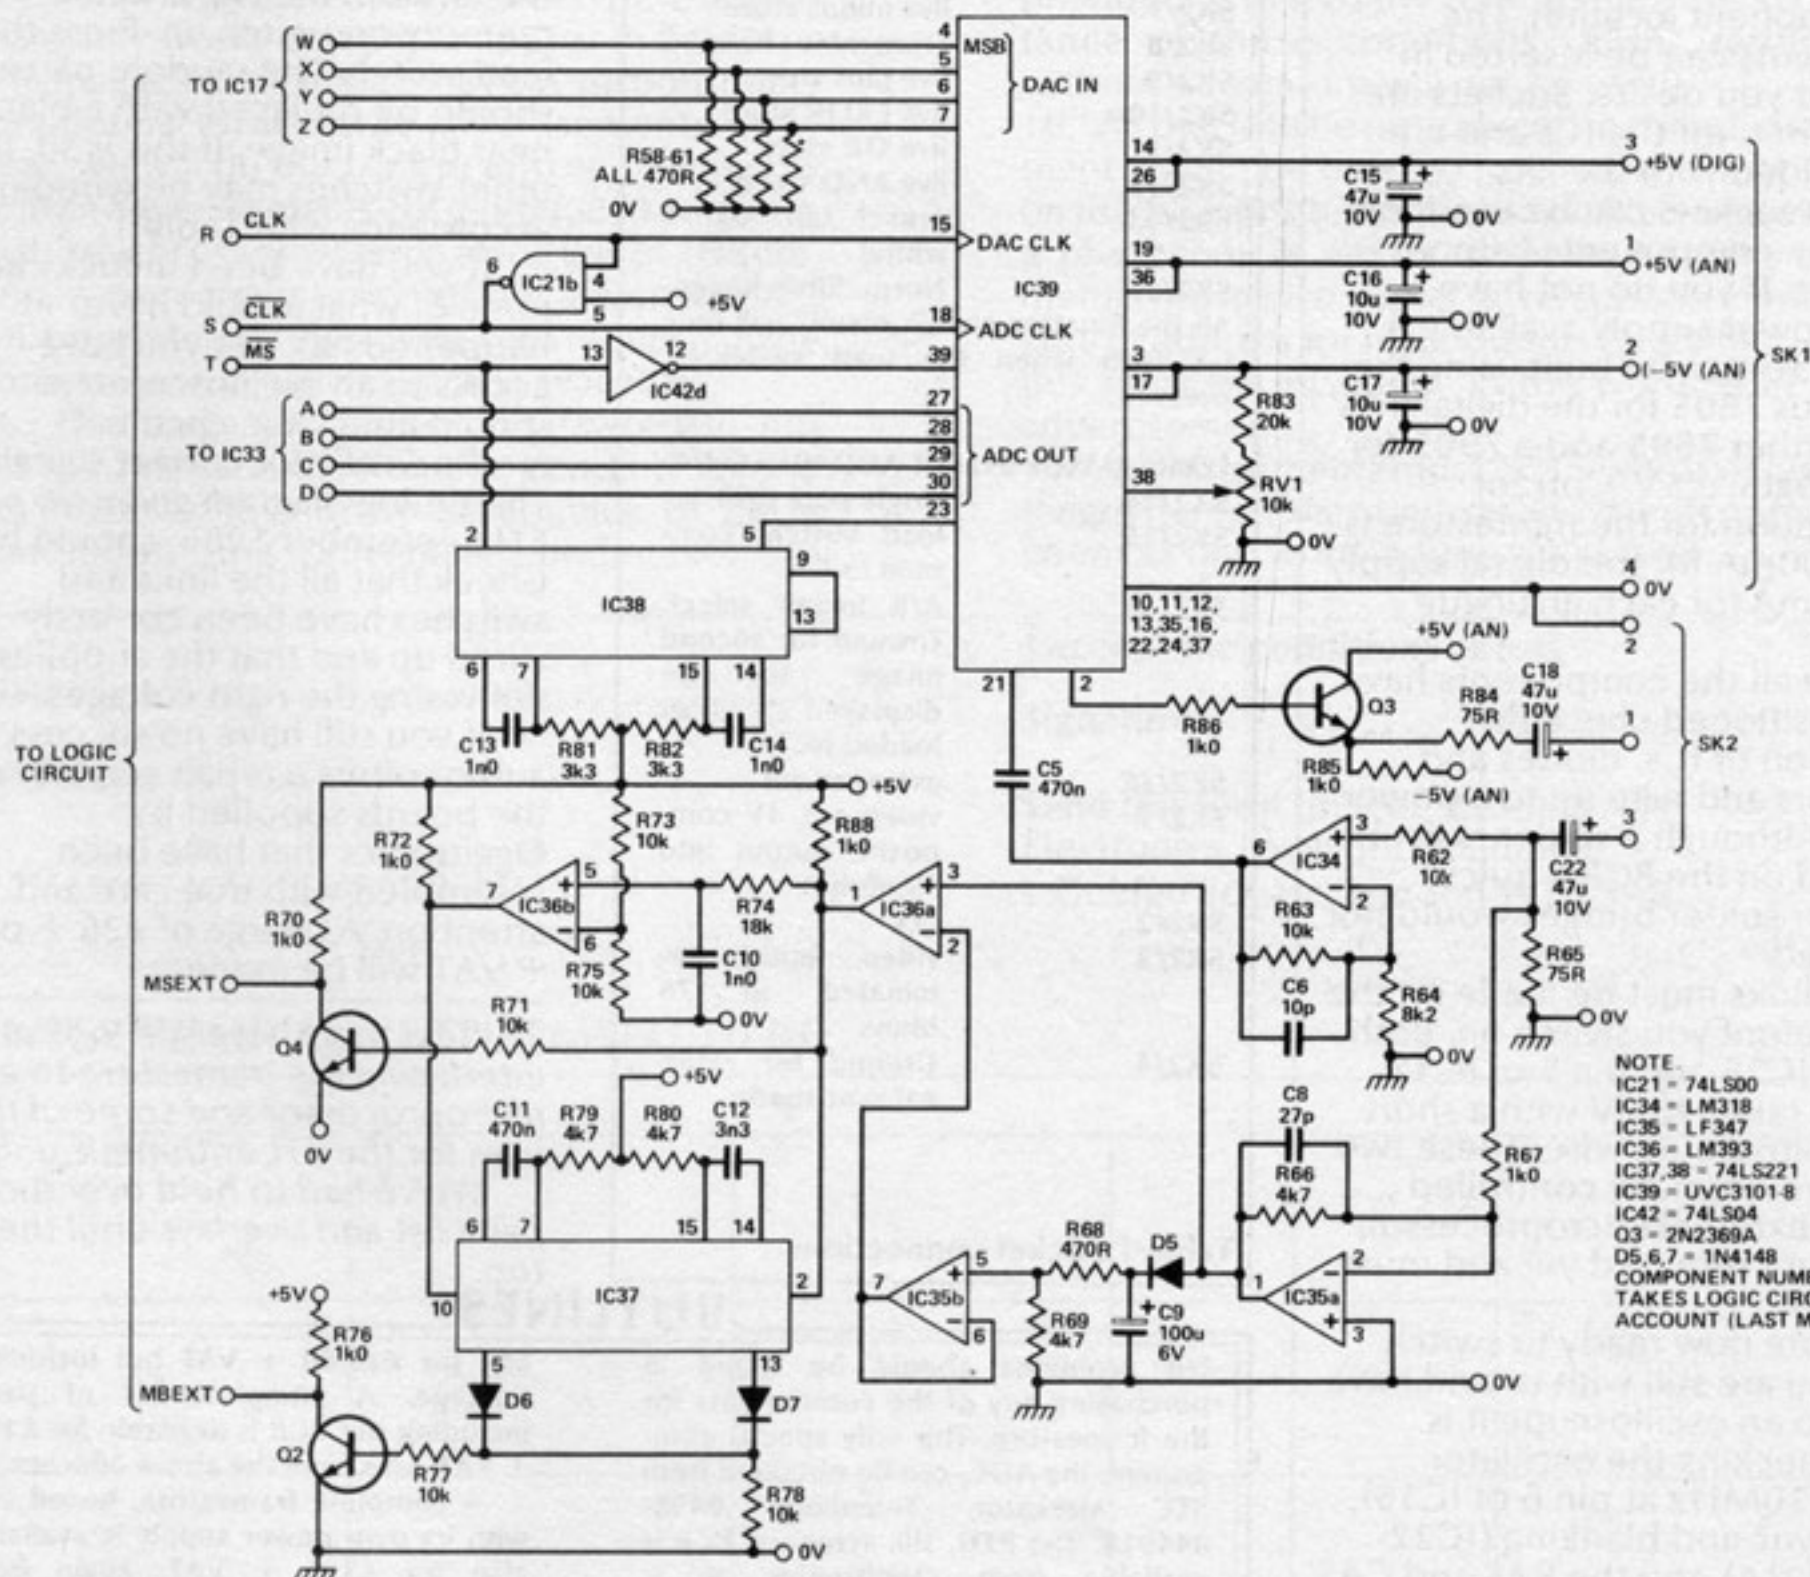

Fig. 6 The video circuit.
IC34 (Fig. 6) is a high speed op-amp which amplifies the incoming video from 0.7V to 2V. This is AC coupled into the ADC by C5. The video input is terminated in 75R by R65, but this may be removed if necessary. R63 and C6 form a low-pass filter to reduce the amplitude of high frequency signals and prevent aliasing. The AC coupled input to the ADC is clamped internally by a pulse on pin 23. IC38 generates this pulse which is arranged to lie in the back porch of the line sync pulse — black by definition. This ensures the blacks in the picture do not shift with changing light levels or with different camera iris settings. The top 4 bits of the 8-bit converter are used and are present on pins 27-30 of IC39. Pin 27 is the MSB.
- The output video transistor (Q3 on the video circuit diagram, Fig. 6, ETI October, 1986, p.49) is now removed and the video output is taken directly from IC39, pin 2, via R86 (changed to 56R), R84 (still 75R) and C18. The two resistors ensure that the 2V output of IC39 is attenuated to 0.7V into a 75 ohm load. R85 should be omitted.